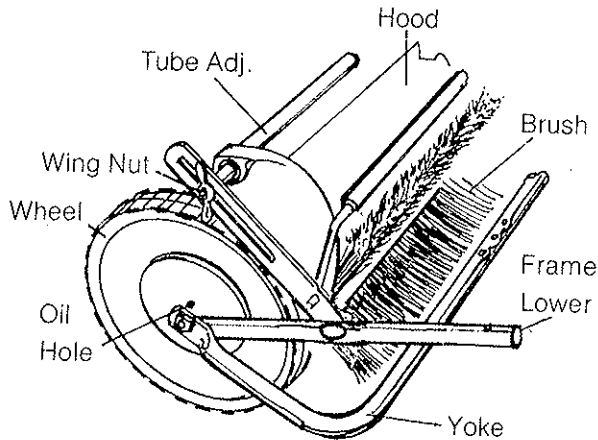

Figure 1
- Fig. 1 - Set the Sweeper Head Assembly on the floor with the Yoke under the Brushes as shown. This will protect the Brushes from being flattened on the floor during assembly.
Fig. 1 - Loosen the Wing Nut holding the Bracket-Brush Adj. on the Upper left side of the Hood. Take hold of the Tube-Adj. and move up or down to get the desired brush height then tighten the Wing Nut. The correct brush height is when the brush is just touching the top of the grass. After a trial run on the lawn, it may be necessary to adjust the brush setting.
Fig. 1 & 10 - Place a few drops of oil in the oil hole located on the hub of each wheel and between the Washer and Bearing Flange on the Reel Shaft inside the Side-Plate (Both Sides). This should be done each time before the Sweeper is used.